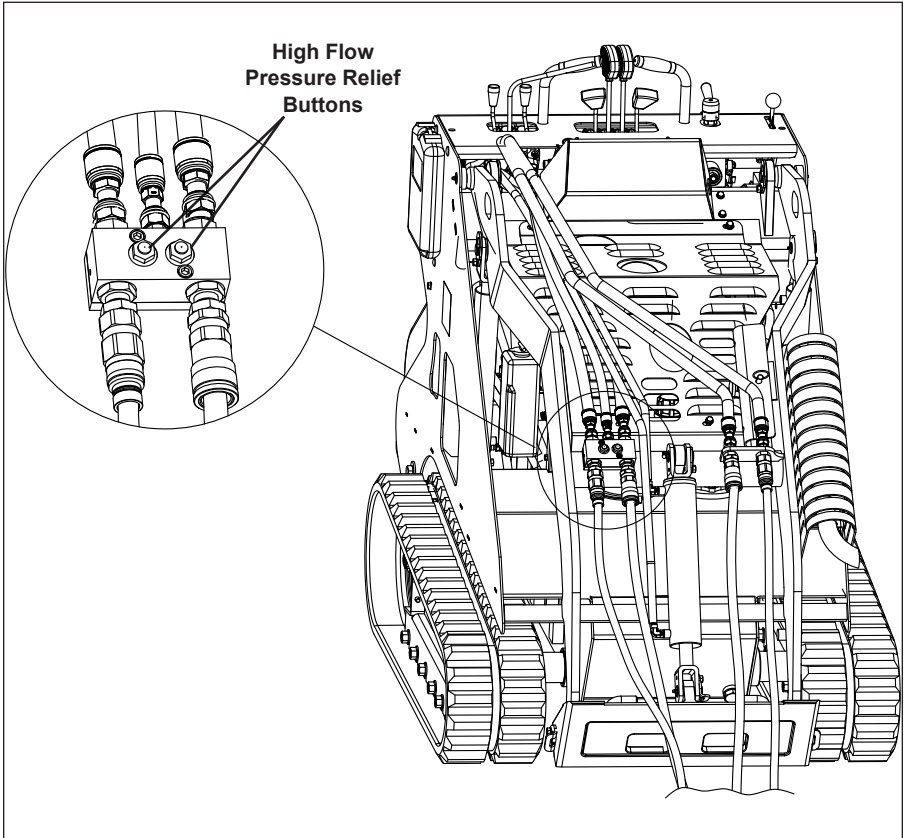

Figure 3-37 Attachment Hydraulic Hose Routing (shown without hose covers)
10. Relieve hydraulic pressure stored in the hoses. NOTE: To relieve pressure in high flow side, depress push buttons located on the pressure relief block (see Figure 3-37).
12. Make sure that the hydraulic hoses are routed so that they will not be in the way or damaged during machine operation. **Figure 3-37** shows how the hoses might be routed to keep them out of the way during operation and prevent them from being damaged.
2. Relieve hydraulic pressure stored in the hoses. NOTE: To relieve pressure in low flow side, move auxiliary control lever (see Item 2, Figure 3-39) back and forth then leave in the detent. To relieve pressure in high flow side, depress push buttons located on the pressure relief block (see Figure 3-37).